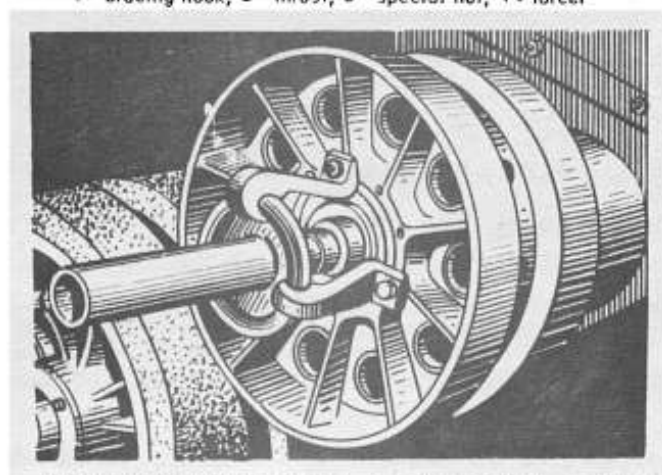

FIG. 4. MOUNTING FIXTURE 14-1A FOR PRESSING OFF THE IDLER WHEEL (ROAD WHEEL)
6. Mount (Fig.4) fixture YK-1A on the idler wheel hub and remove the idler wheel.